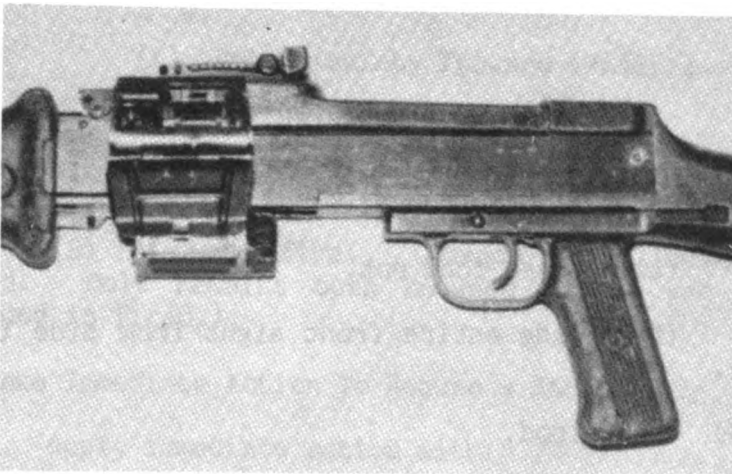

Figure 1
- (1) Rear sight elevation. (See fig. 1.)
(2) Rear sight windage is adjusted by turning windage knob. (See fig. 1.)